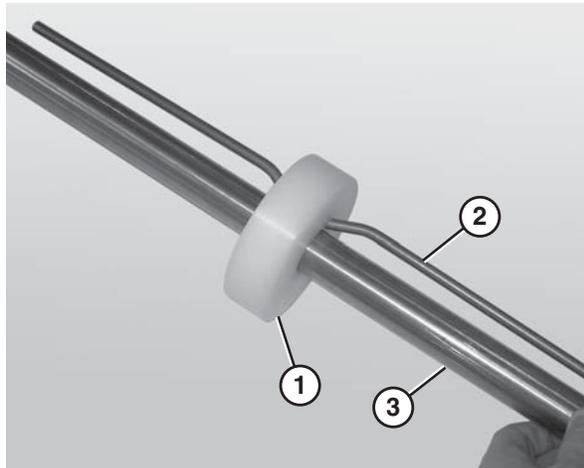

Figure 65
- Place the idler puck (Figure 65, item 1) at the center of the bent retaining bar (Figure 65, item 2).
- Slide the idler puck onto the idler shaft (Figure 65, item 3). Make sure to center the idler puck.